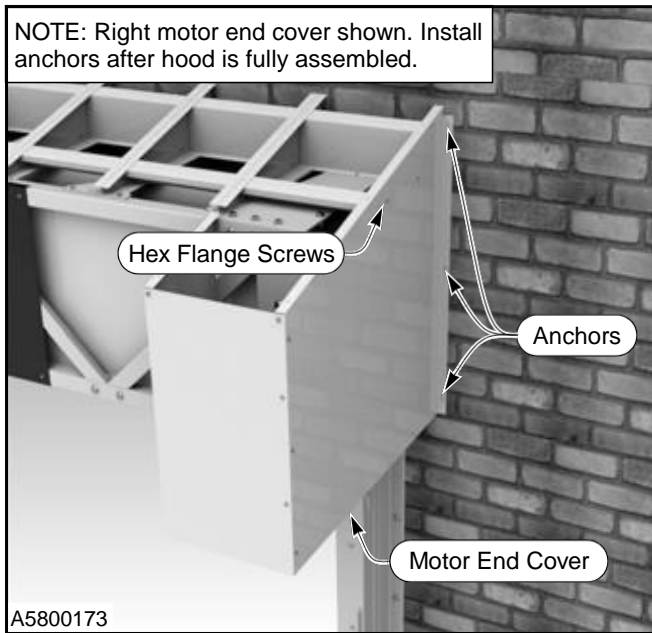

Figure 43
15. Install left and right motor end covers using $\frac{1}{4}$ -20 x $\frac{3}{4}$ hex flange screws. (See Figure 43)